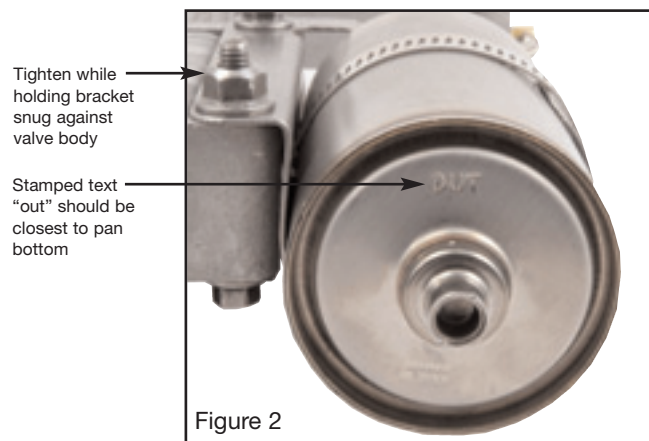

Figure 2
4. Install filter/bracket assembly onto the valve body and tighten in place while holding it snug against the valve body (see Figure 2).
8. Stamped text "out" should be closest to pan bottom (see Figure 2).